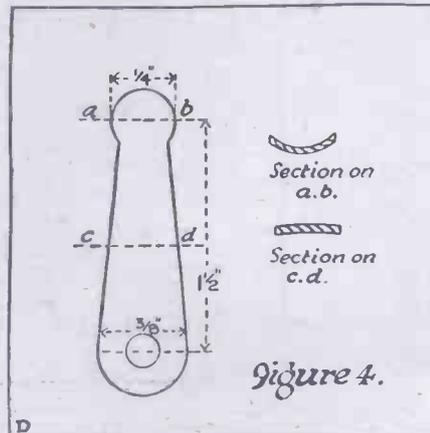

Figure 4.
4. Brass arm and 2 B.A. nut. (Details Fig. 4).
Cut out a piece of $\frac{3}{16}$ in. brass to dimensions shown in Fig. 4, denting the end, E, to give good contact on the studs. To strengthen the arm the piece can be slightly dented along its length as in section C, D. Then carefully solder the 2 B.A. nut on the top side, taking care that the holes are in correct position. Place the parts as shown, screwing the arm down until fairly tight. The knob can then be used to lock the nut in its place on the screw. The dished washer will act as a spring, enabling the arm to turn without working loose.
The making of the frame should not present any difficulties—the corners are mitred, which can be easily done by using a block of wood in which a saw cut has been made at an angle of forty-five degrees, as a guide for the saw when cutting the moulding. The corners are then glued or seccotined and the four pieces put in a cramp—made of four pieces of wood and a length of cord (see Fig. 4)—until the glue has set.